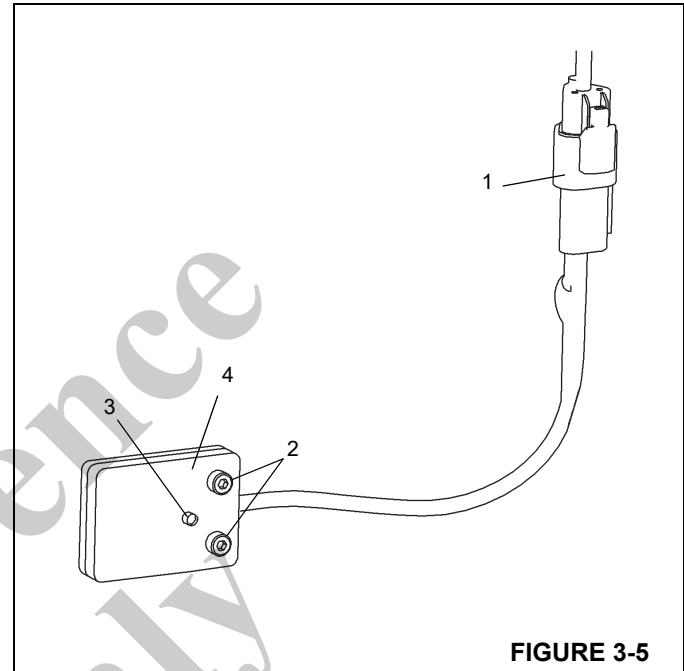

FIGURE 3-5
1. Disconnect electrical connector (1, Figure 3-5) at switch.
2. Remove the two screws (2, Figure 3-5) securing the switch (4) to the stabilizer box; remove switch.
2. Using two screws (2, Figure 3-5), secure the switch (4) to stabilizer box.
3. Connect electrical connector (1, Figure 3-5) to switch.
4. With power on and stabilizer beam fully extended, ensure LED (3, Figure 3-5) on proximity switch illuminates; retract stabilizer beam and ensure LED is not illuminated.